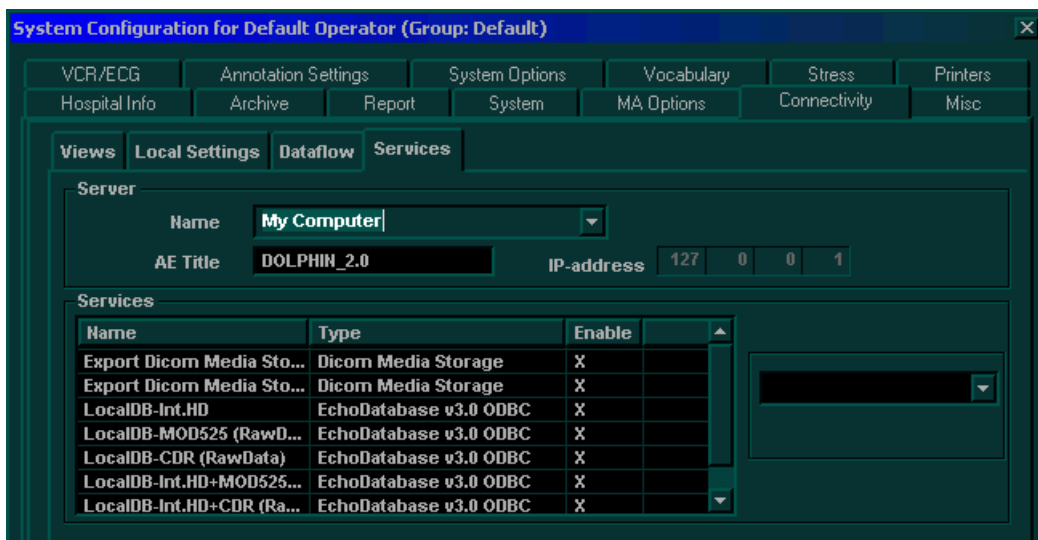

Figure 3-39 Services Tab
- 6) Trackball to the **Services** tab and press **Select**. The **Services** tab is displayed, as shown in Figure 3-39 on page 3-57.